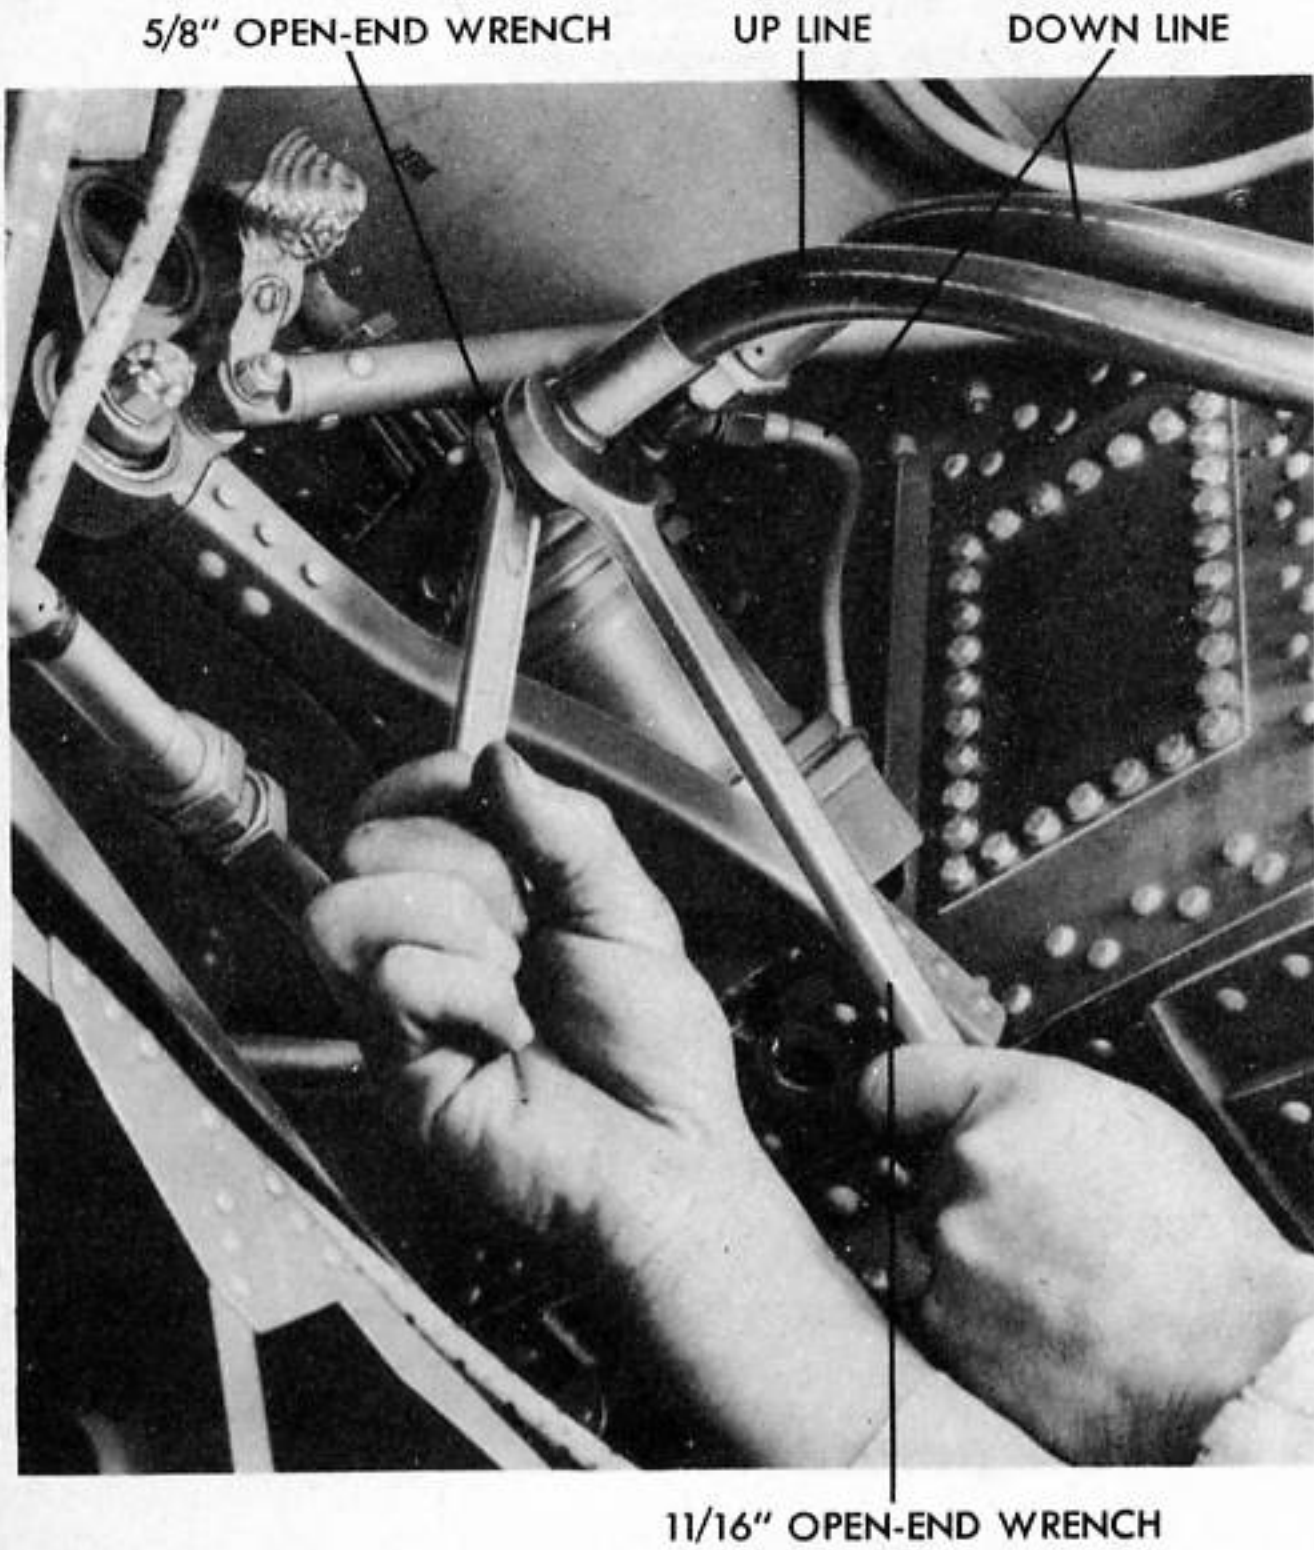

Figure 209 - REMOVING OUTBOARD WING FLAP ACTUATING STRUT
(25) REMOVAL OF OUTBOARD AND INBOARD WING FLAP ACTUATING STRUTS. (See figure 209.)